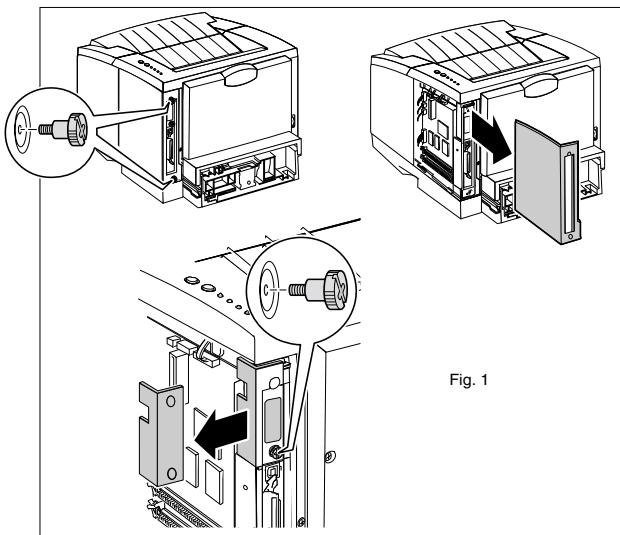

Fig. 1
2. Remove the two thumb screws from the System Controller Board Cover and remove the cover (Fig 1).